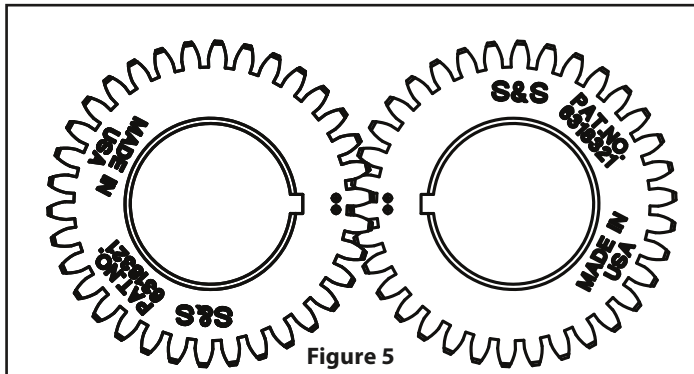

Figure 5
6. Apply assembly lube to bearing surface of rear (longer) camshaft and inside the rear bearing. Support bearing by inner race. Align front and rear camshaft gear timing marks as shown in **Figure 5**. Press camshaft all the way into bearing.